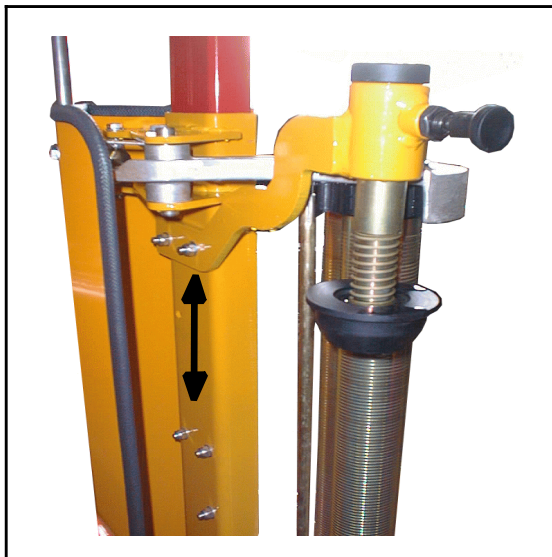

Fig. 6-3
- 6.2 Place a reel of film on to the prestretcher's holding axle and put on the springloaded lock. On delivery the prestretcher is set for the 750mm film, the top bracket may be moved down enabling the use of the 500mm film. (See fig. 6-3).